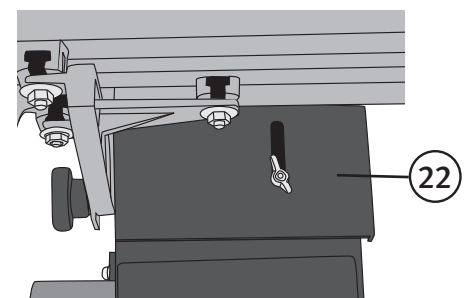

fig. 11
7. Adjust the moveable guard ((22) in fig. 11) so that it covers the sanding belt beneath the table.